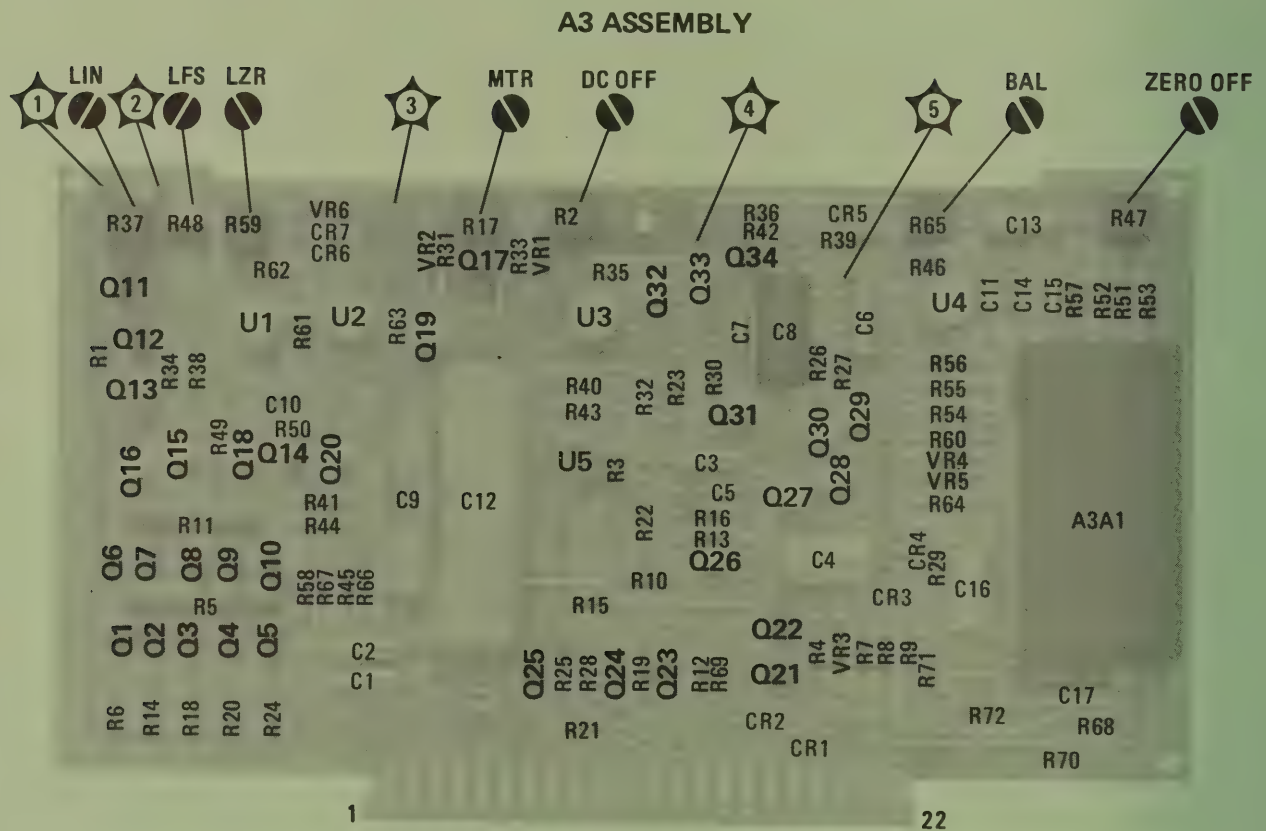

Figure 7-5. A3 A-D Converter Assembly Components, Test Point, and Adjustment Locations (P/O Change E)
- Replace the component locator photograph with Figure 7-5.